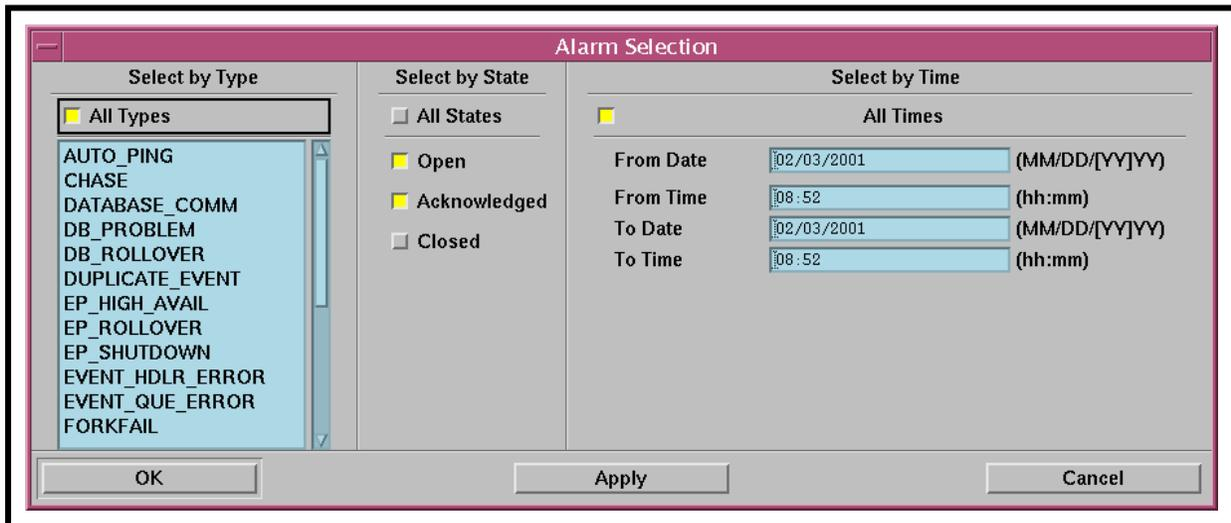

Figure 71. Alarm Selection GUI
- **Alarm Selection** GUI (Figure 71) is displayed.